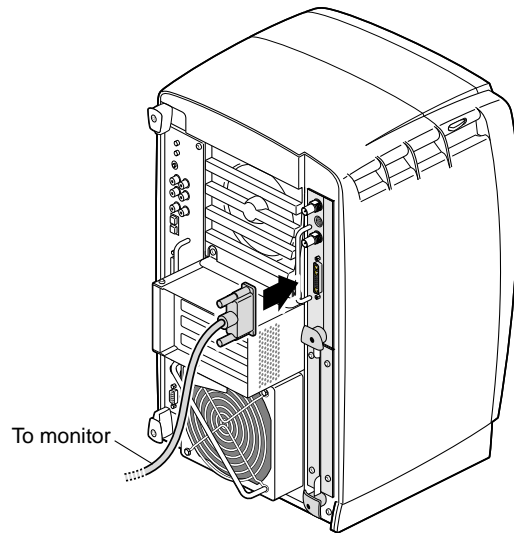

Figure 16 Reconnecting the Monitor Cable
9. Reconnect the monitor cable (see Figure 16) and all XIO cables to the XIO Tri-Module.